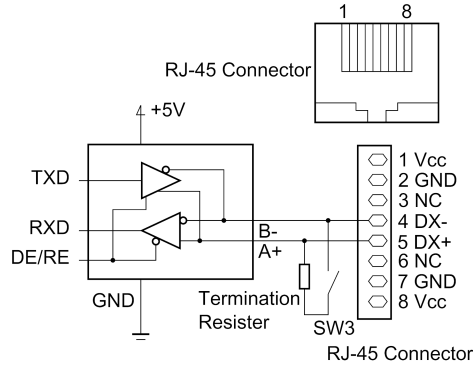
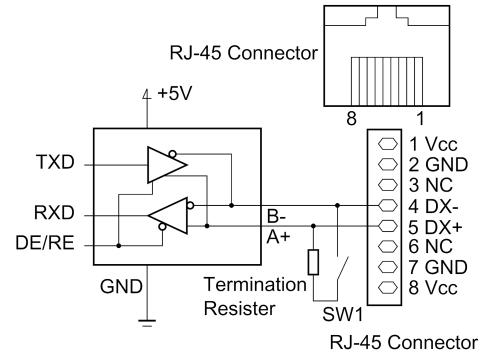

Figure 1.2 Standard RS485 Port and RJ-45 Connector Pin Assignment (FRENIC-Eco)
Figure 1.3 Optional RS485 Port and RJ-45 Connector Pin Assignment (FRENIC-Mini)
- RJ-45 connectors mounted in the inverter and on the RS485 communications card, have pins assigned for feeding power to the keypad used for remote operations. Do not use these pins for any other purposes such as for connection of any equipment other than the keypad. (See Figure 1.2 and Figure 1.3 on the next page.)
For ease of connection to a standard RS232C-RS485 communications converter FRENIC-Mini/Eco is designed to be compliant with the standard 4 pairs signal line pin assignment for the RJ-45 connector, where a pair of signal lines DX- and DX+ are assigned to No. 4 and 5 pins as shown in Figure 1.2.